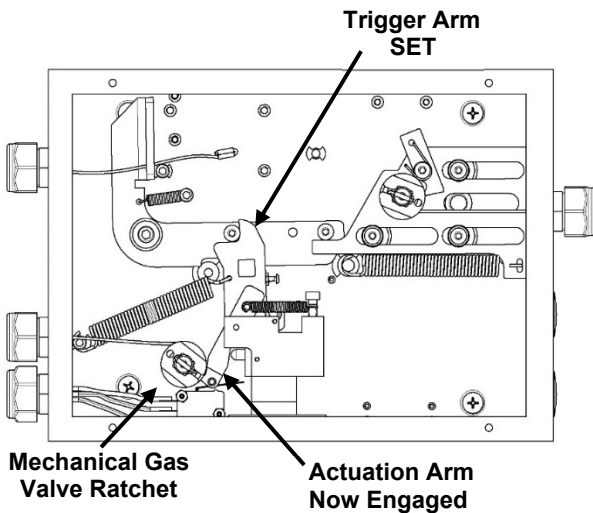

Figure 4-38.
- The Actuating Lever will move with the Trigger Arm and engage the Mechanical Gas Valve Ratchet and take the pressure off the microswitch paddles, returning them to their SET positions. See Figure 4-38.